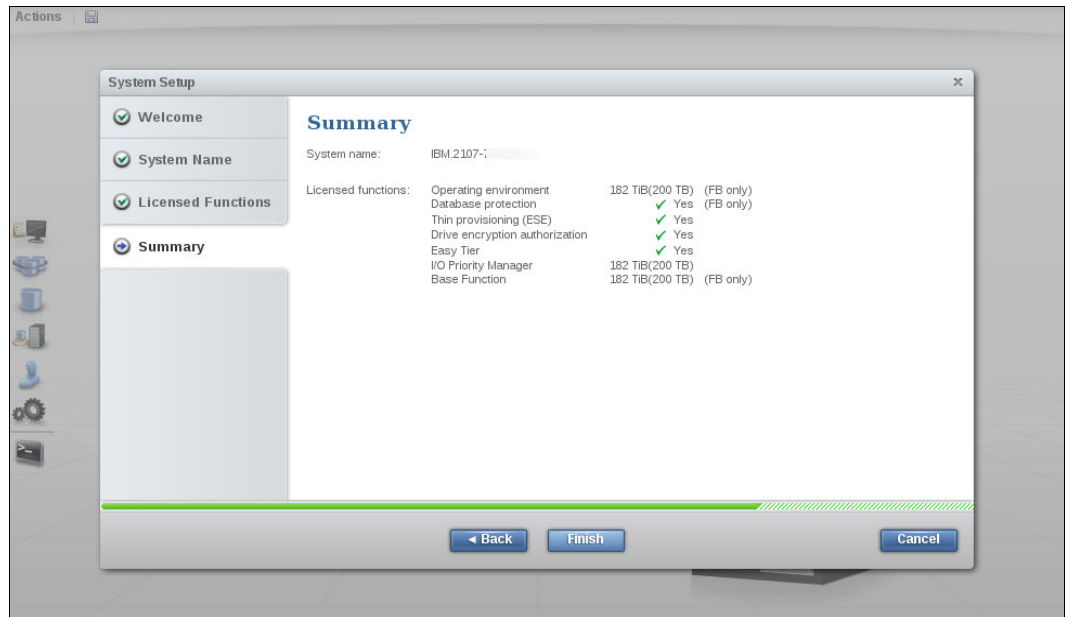

Figure 11-7 System Setup: Summary
5. Click **Next** to open the Summary window, which is shown in Figure 11-7. If everything looks correct, click **Finish** to exit the System Setup Wizard.